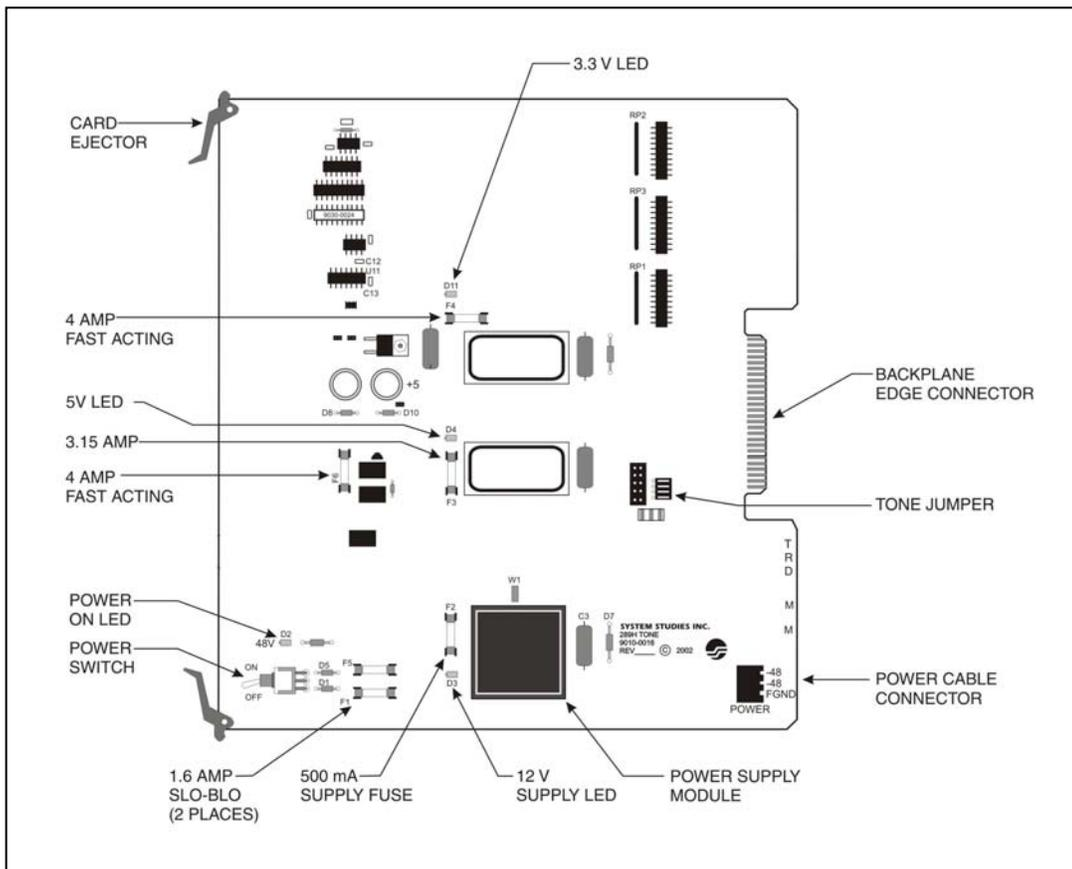

FIGURE A2-1: 289H TONE UTILITY CARD
1. Is the 48 volt supply indicator light located at the front of the Utility Card on? The 48 volt power-on LED is located in the lower left corner of the card, as shown in FIGURE A2-1.
2. Are the three LEDs in the middle of the Utility Card on? On the Tone Utility Card (FIGURE A2-1), they are identified as D3, D4, and D11. On the older Utility Card (FIGURE 1-5 in Section 1 of this manual), they are identified as D3, D4, and D5.